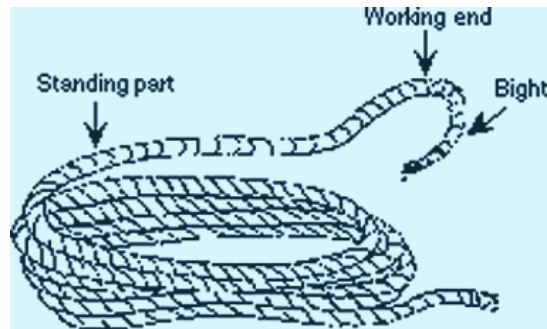

Figure 15.1 Parts of a coiled rope
5. Finish off the coil by wrapping a few turns of the working end (see Figure 15.1) around the centre of the coil.